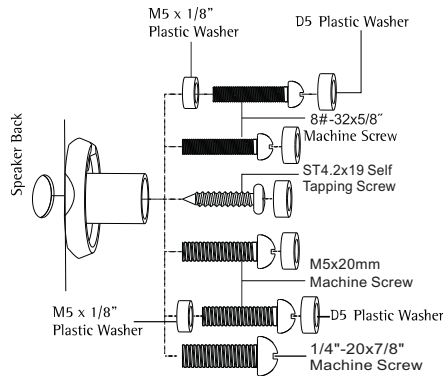

Figure 3
- Check the size of the hole and make sure the 8#-32x5/8" machine screw, the ST4.2x19 Self Tapping Screw, the 1/4"-20x7/8" machine screw, or the M5 x 20mm machine screw fits inside (Figure 3).